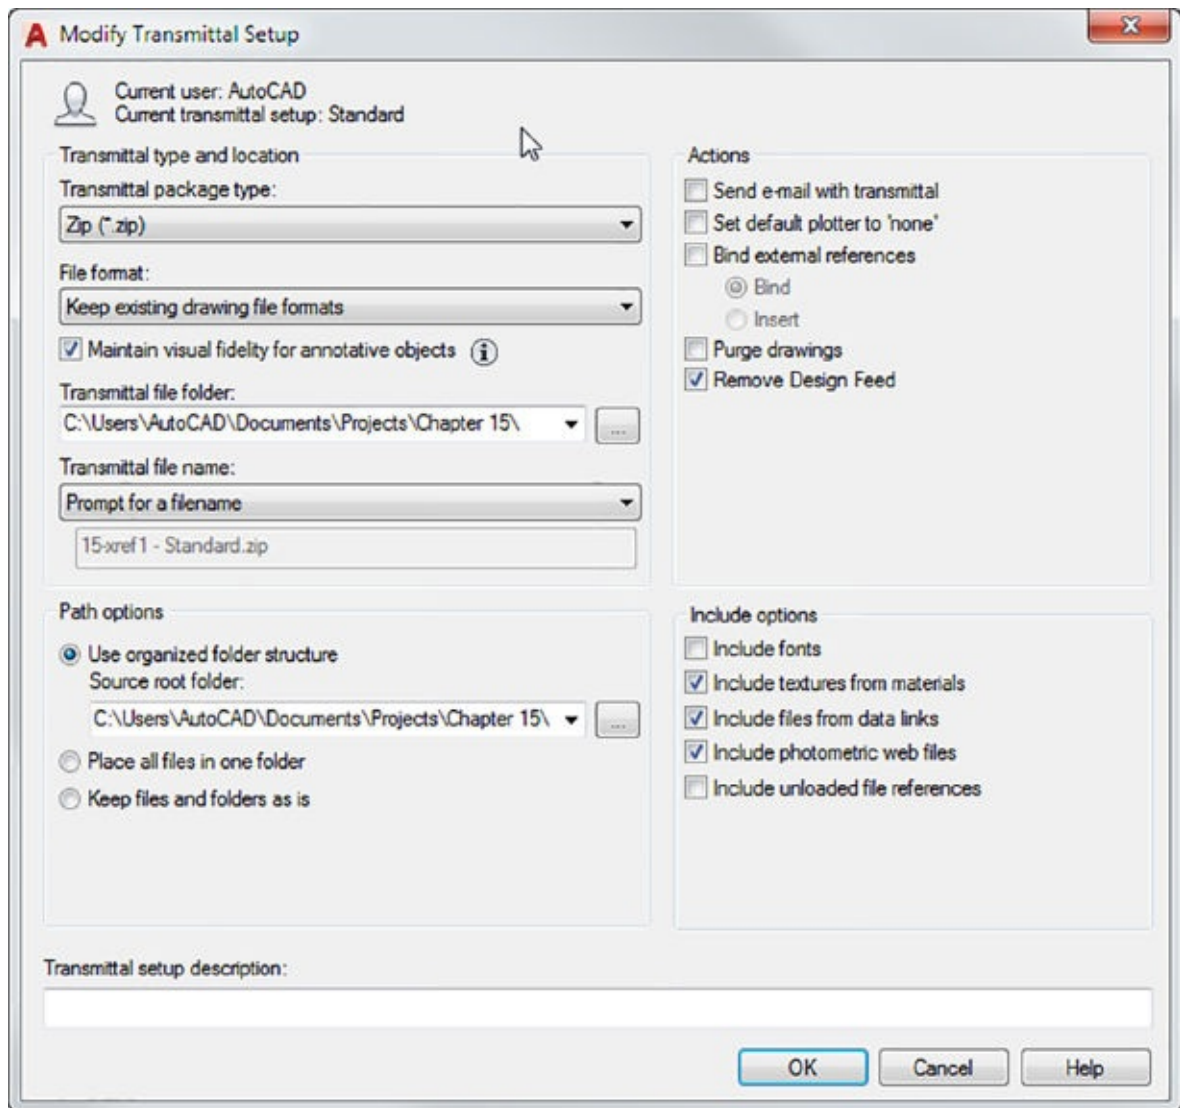

FIGURE 25.3 Set your transmittal options.
5. Click the Modify button to open the Modify Transmittal Setup dialog box (see Figure 25.3).